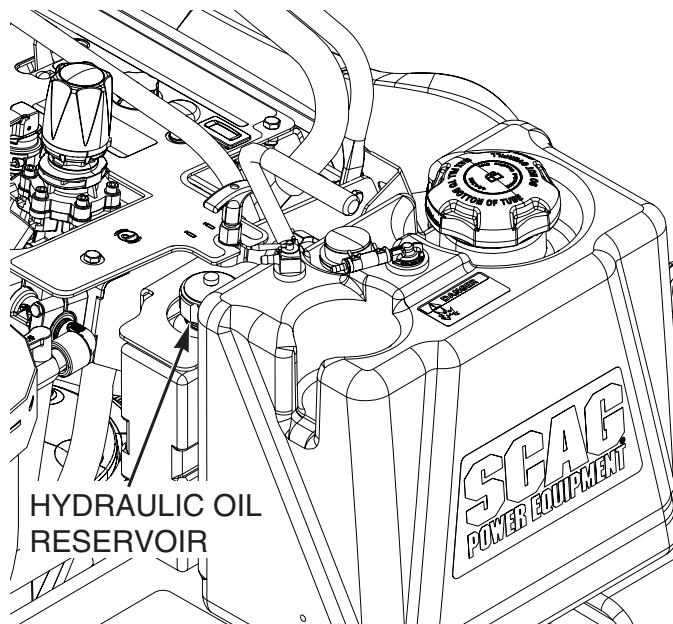

Figure 6-2. Hydraulic Oil Reservoir
1. Wipe dirt and contaminants from around the reservoir cap. Remove the cap from the hydraulic oil reservoir. See Figure 6-2.